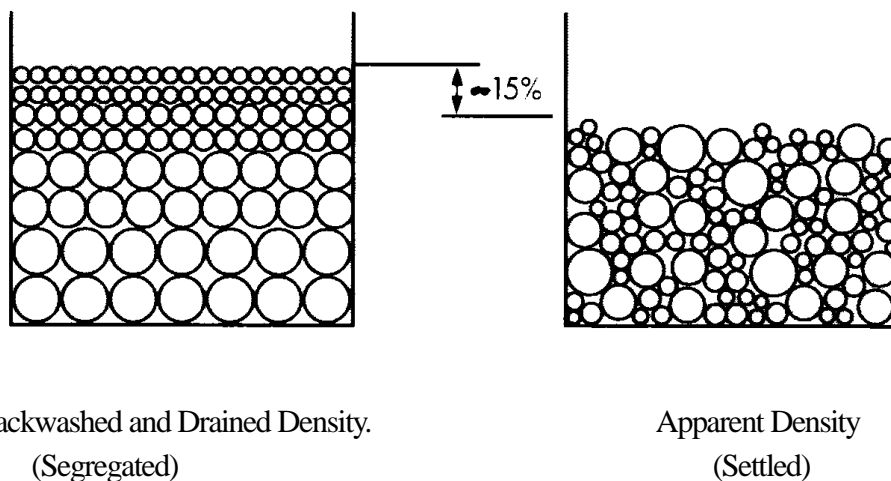

Figure 2: The difference between the Apparent Density and the Backwashed and Drained Density.
In drinking water/wastewater water, granular activated carbon is backwashed, that is an upward flow of water to remove fine carbon particles and air and to segregate the bed. Segregation is where smaller granules are pushed to the top of the bed while larger granules migrate to the bottom. This results in a lower density typically **85 to 89 %** of the apparent density (AD). This means the height of carbon in an adsorber after filling will increase after the initial backwash. This is illustrated in Figure 2.